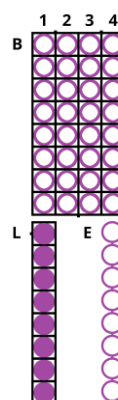

Figure 3:
4. Carefully peel off the foil covering the elution strip and the 32-well block and load the consumables into the IndiMag 2 according to Figure 3.
7. Load the lysis strip into the IndiMag 2, according to Figure 3 (marked in purple) and start the “IndiMag Pathogen Lysis/Block/Elution” protocol.
5. Add 500 µl Lysis Buffer to each sample in the first column (marked in blue in Fig. 3).